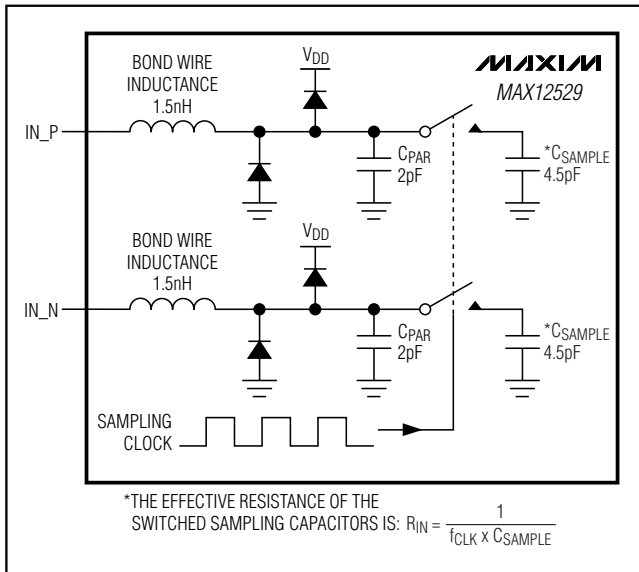
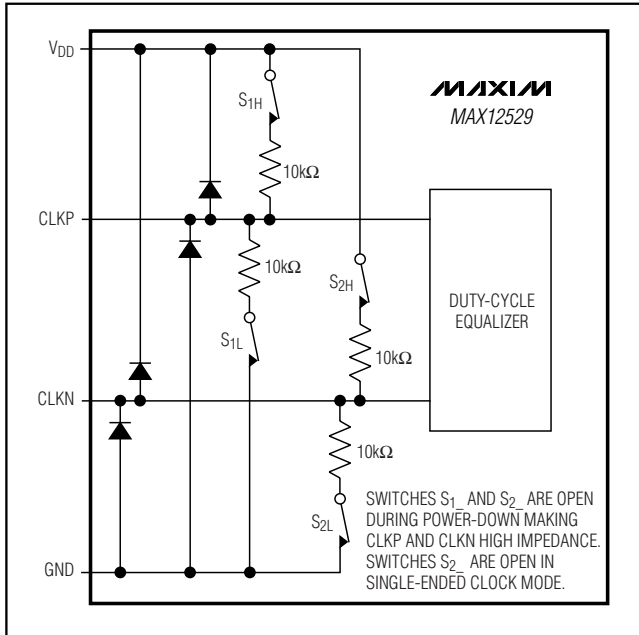

Figure 3. Internal T/H Circuit
Figure 4. Simplified Clock Input Circuit
Figure 3 displays a simplified functional diagram of the input T/H circuit. This input T/H circuit allows for high analog input frequencies of 175MHz and beyond and supports a $V_{DD} / 2$ common-mode input voltage.
The MAX12529 sampling clock controls the switched-capacitor input T/H architecture (Figure 3) allowing the analog input signals to be stored as charge on the sampling capacitors. These switches are closed (track mode) when the sampling clock is high and open (hold mode) when the sampling clock is low (Figure 4). The analog input signal source must be able to provide the dynamic currents necessary to charge and discharge the sampling capacitors. To avoid signal degradation, these capacitors must be charged to one-half LSB accuracy within one-half of a clock cycle. The analog input of the MAX12529 supports differential or single-ended input drive. For optimum performance with differential inputs, balance the input impedance of IN_P and IN_N and set the common-mode voltage to mid-supply ($V_{DD} / 2$). The MAX12529 provides the optimum common-mode voltage of $V_{DD} / 2$ through the COM output when operating in internal reference mode and buffered external reference mode. This COM output voltage can be used to bias the input network as shown in Figures 9, 10, and 11.
The MAX12529 accepts both differential and single-ended clock inputs with a wide 25% to 75% input clock duty cycle. For single-ended clock input operation, connect DIFFCLK/SECLK and CLKN to GND. Apply an external single-ended clock signal to CLKP. To reduce clock jitter, the external single-ended clock must have sharp falling edges. For differential clock input operation, connect DIFFCLK/SECLK to OV_{DD} . Apply an external differential clock signal to CLKP and CLKN. Consider the clock input as an analog input and route it away from any other analog inputs and digital signal lines. CLKP and CLKN enter high impedance when the MAX12529 is powered down (Figure 4).
- 1) INAP/B and INAN/B analog inputs are disconnected from the internal input amplifier (Figure 3).
- 6) CLKP and CLKN clock inputs enter a high-impedance state (Figure 4).